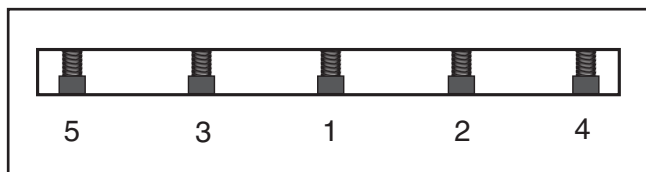

Figure 30. Gib bolt tightening sequence.
7. Slightly tighten gib bolts, starting at middle and working your way to ends by alternating left and right, as illustrated in **Figure 30**.
9. Fully tighten all gib bolts in sequence shown in **Figure 30** for each knife.